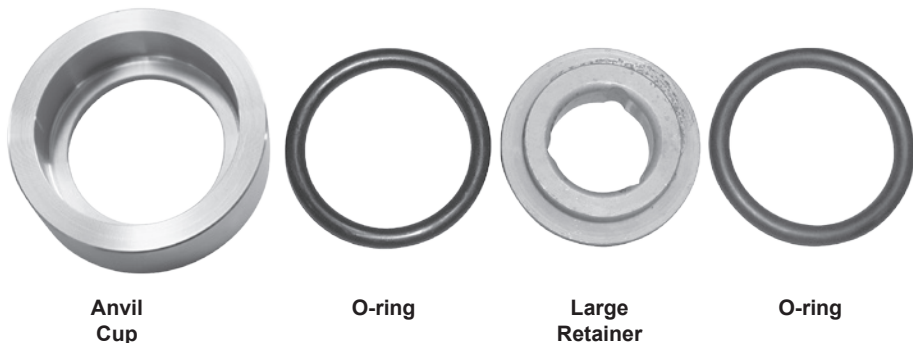

Fig. 16 - Insert O-ring into Anvil O-ring cup, then insert Large Retainer, then insert other O-ring.
Lubricate and assemble the large retainer and the two (2) large retainer o-ring seals in the order shown in **Fig. 16** and assemble into the anvil o-ring cup.